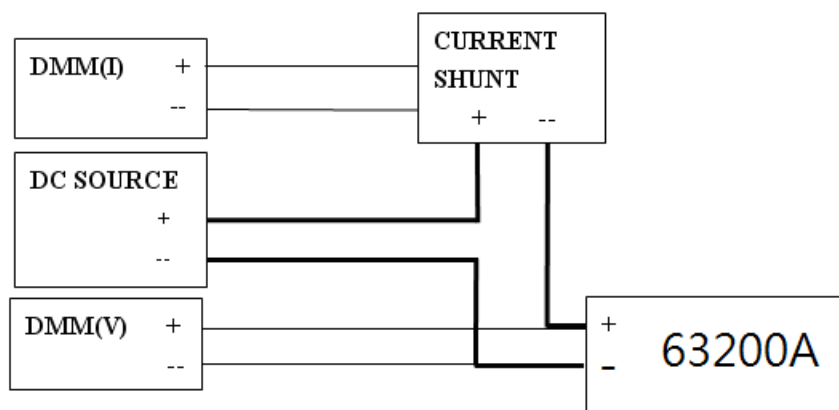

Figure 6-1
Connect the Load, DC Source, DMM and Current Shunt as shown in Figure 6-1. Use DMM (I) to measure the voltage that passes through the shunt resistor measurement port, and get the Load current.
- A. Connect the Load, DC Source, DMM and Current Shunt as shown in Figure 6-1. Use DMM (I) to measure the voltage that passes through the shunt resistor measurement port, and get the load current.
- D. Turn on the DC source and set output voltage to 5V. Set current limit of DC source larger than the set current in Table 6-2. Press **LOAD** to enable the load and wait for 30 seconds. Then record the shunt current and the front panel displayed readings. The current of load can be recorded from current shunt = DMM (I) voltage/current shunt resistor.